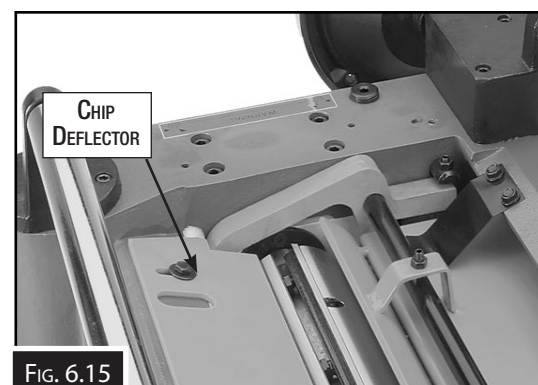

FIG. 6.15
3. Rotate the cutterhead pulley until a blade of the cutter head is nearest the chip deflector, then measure that distance between the chip deflector and the blade. (Fig. 6.15).